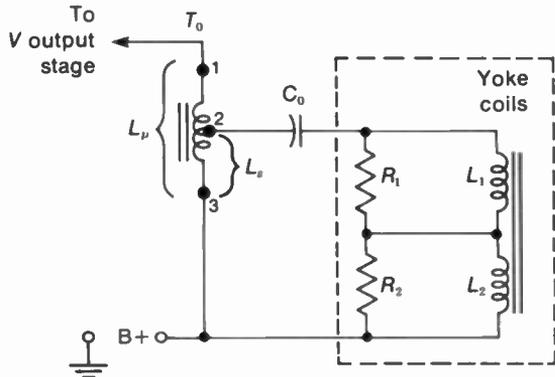

FIGURE 21-6 AUTOTRANSFORMER FOR VERTICAL OUTPUT CIRCUIT.
**Autotransformer for vertical output.** In Fig. 21-6,  $L_p$  includes all the turns but  $L_x$  is tapped down on the coil. The result is voltage stepdown and current stepup from primary to secondary.  $L_p$  is between points 1 and 3, while  $L_x$  is between 2 and 3. The varying current in the primary generates self-induced voltage in all the turns. Since this is an iron-core transformer with unity coupling, the voltage and current ratios are proportional to the number of turns from 1 to 3 for  $L_p$  and from 2 to 3 for  $L_x$ , the same as with a separate secondary winding. However, the B+ voltage for the primary of the autotransformer is not